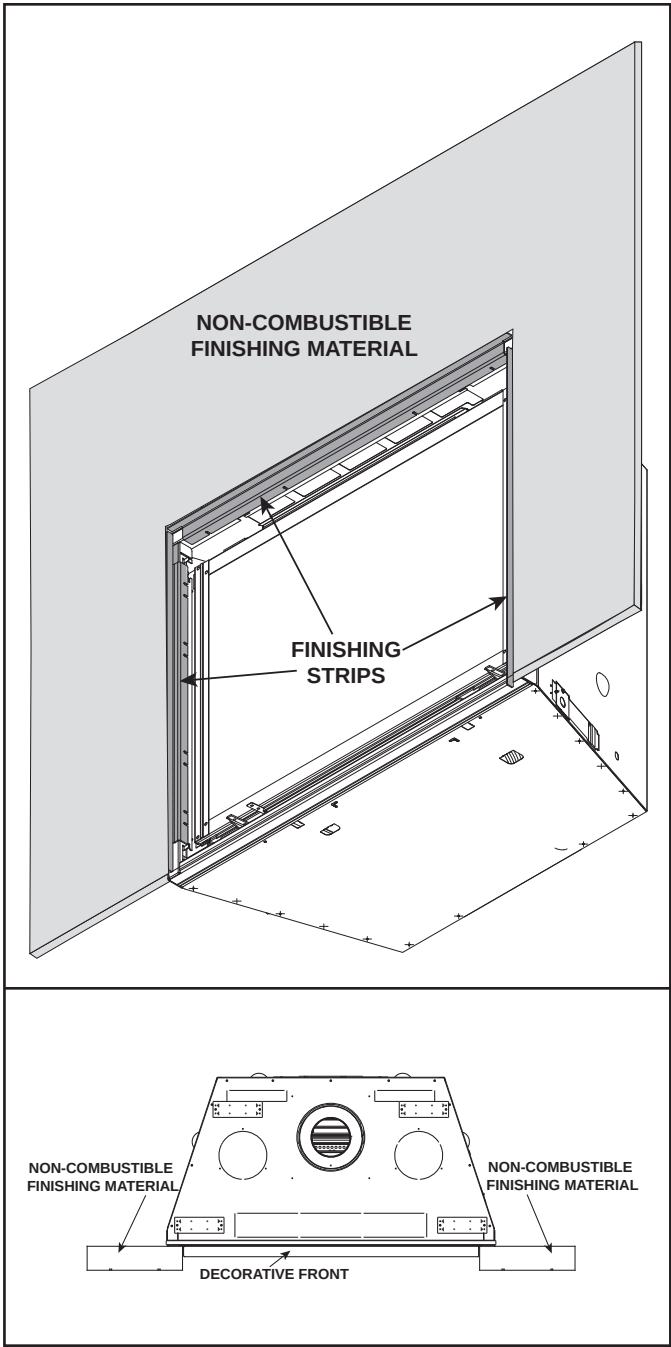

Figure 10.15 Non-Combustible Finishing Material Thickness Greater Than One Inch - Finishing Strips Required
2. Finishing strips required. Shipped with appliance. See Figure 10.15.
- A. Finish material 1-6 inch thick: Use this method with overlap fronts installed as inside fit. See Figure 10.15.